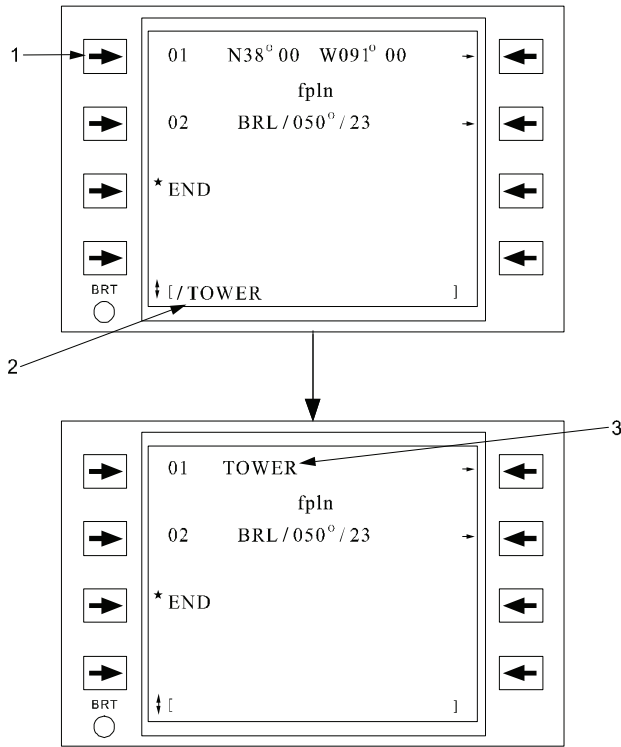

Figure 3B-101. Creating User Named Waypoints
(4) *User Waypoint Naming.* Waypoints within the FMS can be given a user defined identifier name by applying a / followed by the desired waypoint name Figure 3B-101 and Table 3B-70. Valid waypoints that can be named by this function are latitude/longitude and ident/bearing/distance waypoints. ICAO identifier or existing user defined waypoints can not be renamed with the user waypoint naming function.